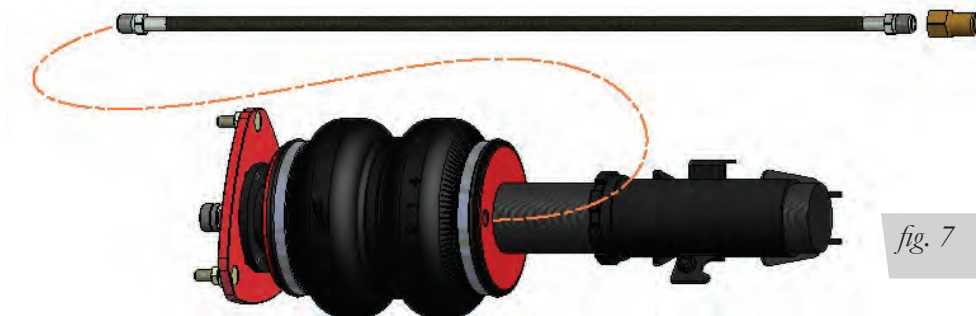

fig. 7
1. Begin by installing the leader line into the air spring (fig. 7). Wrap the threads of the leader hose with Teflon tape or thread sealant. Tighten the appropriate fitting to the airline 1 $\frac{3}{4}$ turns beyond hand tight. Tighten the leader line into the air spring 1 $\frac{3}{4}$ turns beyond hand tight.